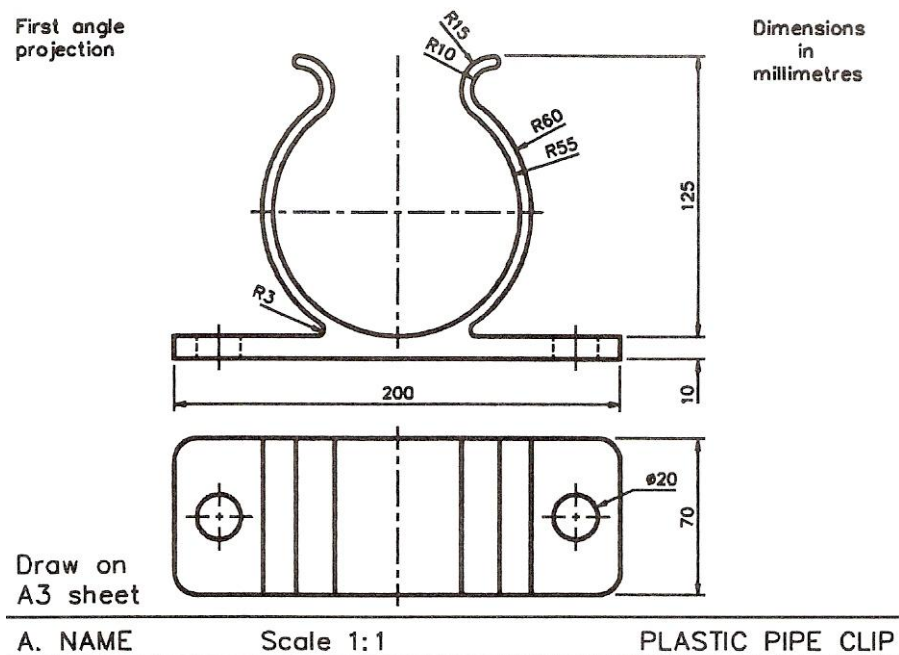

Figure 7 - Dimensioned Drawing of the Pipe Clip Drawn on an A3 Sheet of Paper
- Figure 7 shows the orthographic projection of the pipe clip in the form the orthographic projection would be drawn for use by those engaged in making the clip. Many more drawings of this type appear later in this book.